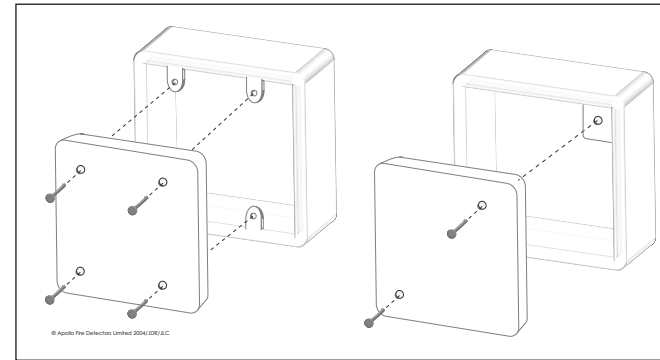

Fig 3. Mounting the XP95A Switch Monitors (55000-805, 806)
- Drill holes in the fascia plate corresponding to the holes on the mounting box selected (Fig 3).